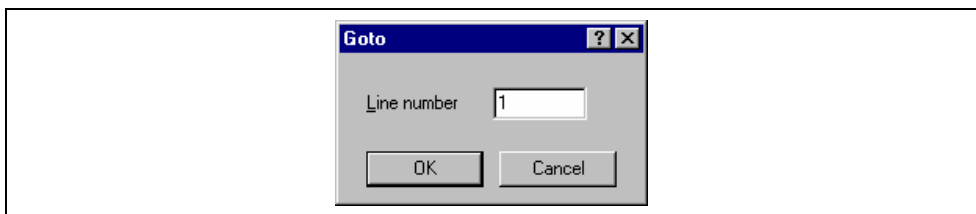

Figure 4.5: Goto Dialog
2. Select [Edit->Goto Line...], press **CTRL+G**, or select [Goto Line...] from the editor window's local menu. A goto line dialog box will be displayed (figure 4.5).